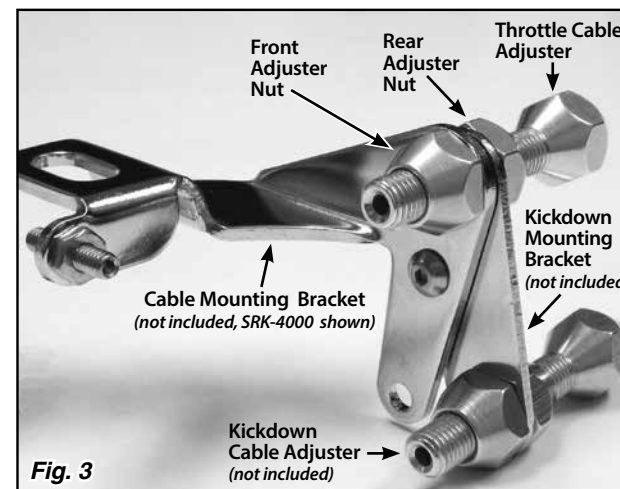

Fig. 3
Step 5: Remove the front adjuster nut from the throttle cable adjuster and insert the throttle cable adjuster into the Cable Mounting Bracket. (**NOTE:** If a Lokar Kickdown Kit is being used, install the kickdown mounting bracket onto the back side of the Cable Mounting Bracket first.) Then, position the rear adjuster nut so that the threaded part of the throttle cable adjuster is approximately centered in the Cable Mounting Bracket. Reinstall the front adjuster nut. **Fig. 3**